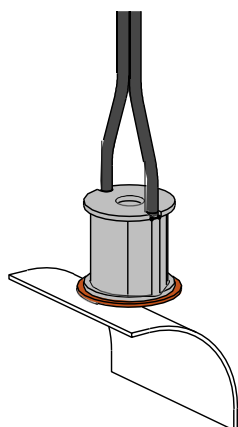

Figure 1
3. Clean the bottom surface of the coil counter bore of your meter housing. This surface will be used to secure the coil assembly with permanent adhesive. Then, remove and discard the peel off liner from the bottom of the coil to expose the glue dot permanent adhesive. (See Figure 1)